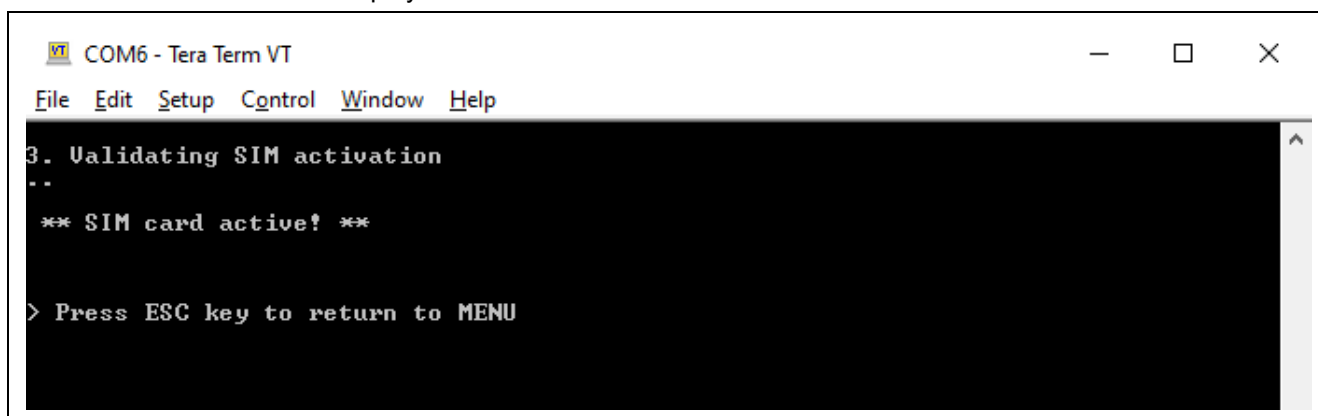

Figure 11. Validating SIM Activation
11. Finish the device registration. The **EK-RA6M5** kit and SIM card should be activated on the Launchpad platform and can be validated on the Tera Term terminal as shown in Figure 11.